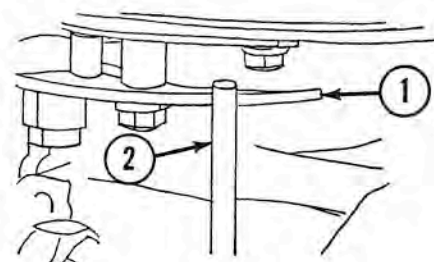

Fig. M48—Schematic view of speed control linkage. Refer to text for details of adjustment.
All Models Except Merc 350: To synchronize the linkage, set the troll control lever in "RUN" position and turn speed control grip until forward gear is engaged and engine is operating at 1000 rpm. Refer to Fig. M48. With controls set as outlined, the control cam (1) attached to magneto stator should just contact the throttle follower lever (2). Adjust by loosening the screws attaching control cam to stator, and shifting the cam (1) slightly until contact is